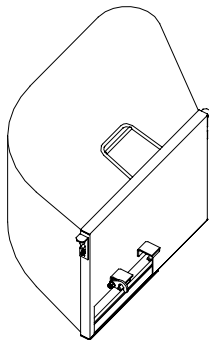

FIG. 2
- a) Grass catcher assembly (2832200): 80L, see FIG 2